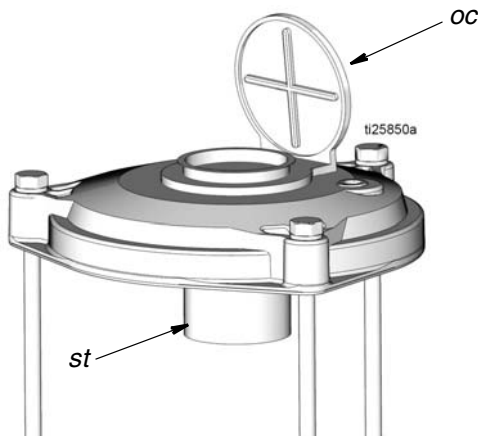

FIG. 5
**NOTE:** A strainer (*st*) is installed at the oil fill cap (*oc*) to prevent contamination of the lubricant with foreign materials (FIG. 5).